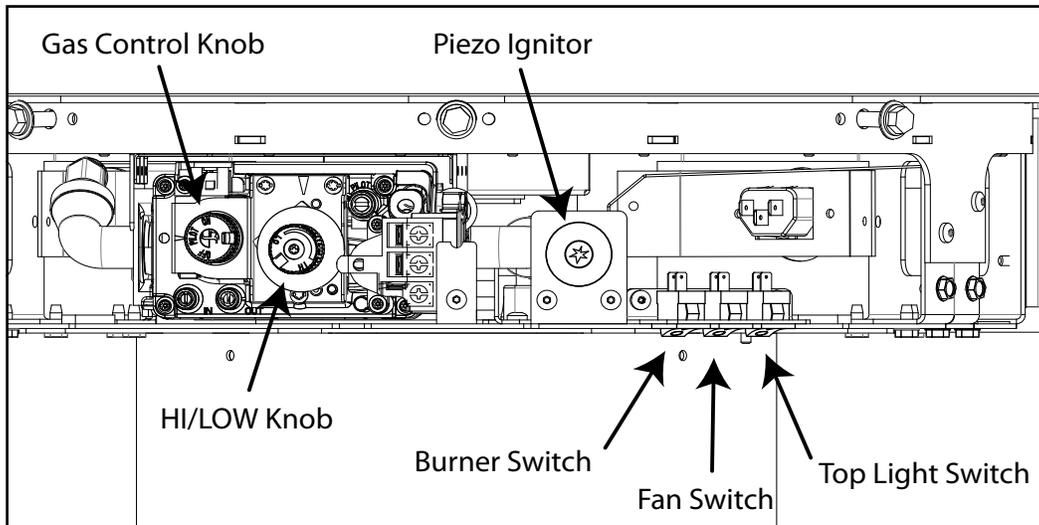
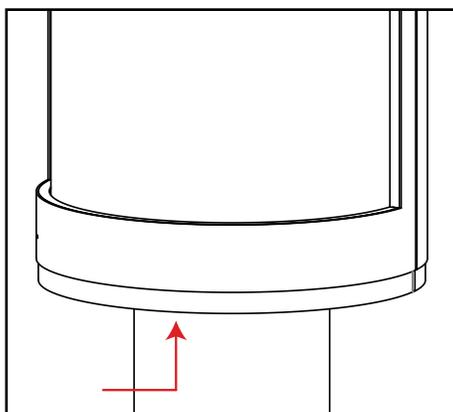
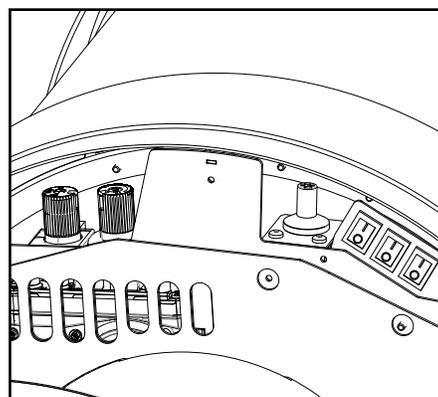

Figure 7: System Controls
Figure 8: Controls Location
Figure 9: Controls Location (Bottom View)
1. Turn off gas to the fireplace. **If not recently done, remove the glass and let the unit air out for at least five (5) minutes to clear out any gas.** Turn on gas to the heater.
2. Align "Pilot" on the control knob (Figure 7) with the horizontal indicator and press knob all the way in while pressing the piezo ignitor repeatedly. When the pilot flame ignites, continue holding down the control knob for approximately 30 seconds then release. On S50 models equipped with 821 valve, hold control knob down until an audible "beep" is heard then release. The pilot flame should remain lit on its own at this point.
The gas valve and control switches are located behind the door frame at the bottom edge of the stove (see Figure 7). The controls can be accessed by reaching under the door frame without needing to remove it (see Figure 8 and Figure 9).
3. Flip burner switch to ON if it's not already (see Figure 7).